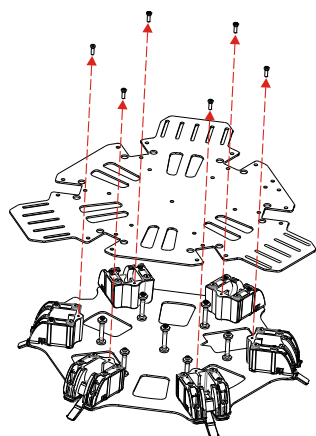

Fig.1 Remove the screws
1. (Fig.1) Remove the screws in the bottom board.